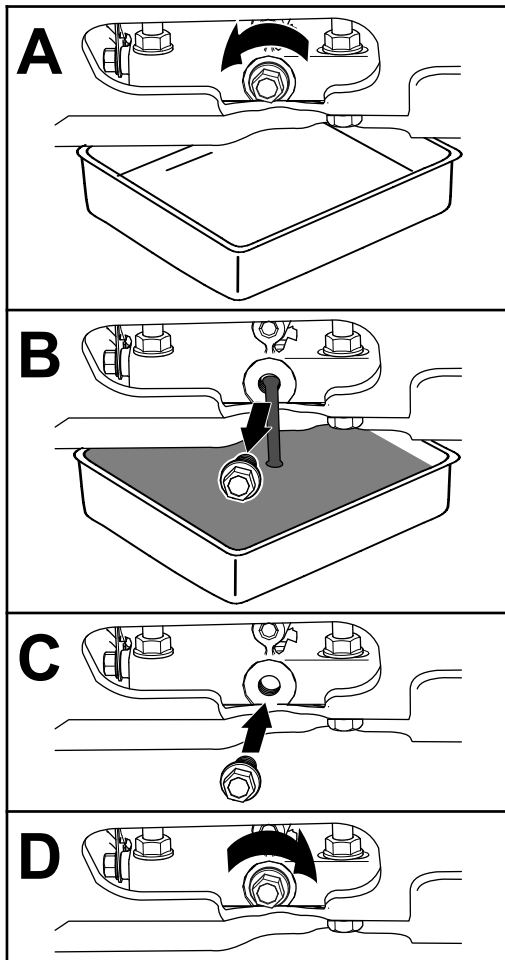

Figure 35
3. Change the engine oil as shown in Figure 35.